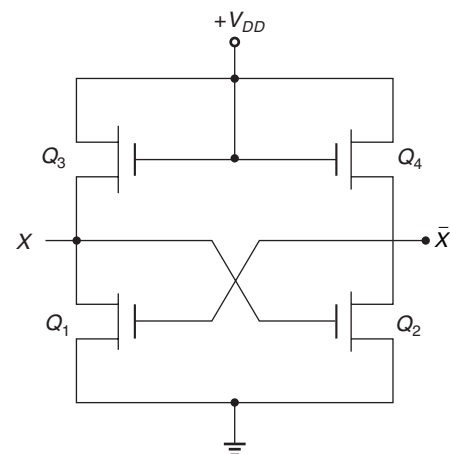

Fig. 15.15 Static Cell.
3. Static RAMs: MOS RAMs may be static or dynamic. *Static memories do not require attention*. Figure 15.15 shows one of the flip-flops used in a static MOS RAM.
In the circuit shown in Fig. 15.15 Q_1 and Q_2 act like switches. Q_3 and Q_4 are active loads, meaning that they behave like resistors. The circuit action is similar to that of a transistor latch. Either Q_1 conducts and Q_2 is cut off or vice versa. A static RAM will contain thousands of flip-flops like this, one for each stored bit. As long as power is applied, the flip-flop remains latched and can store the bit indefinitely.